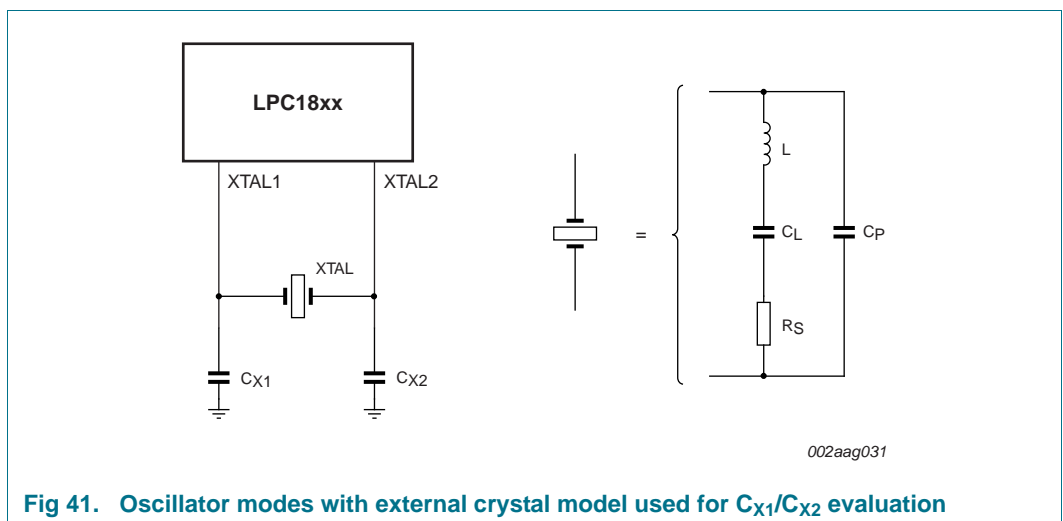

Fig 41. Oscillator modes with external crystal model used for C_{X1}/C_{X2} evaluation
- External components and models used in oscillation mode are shown in Figure 41, and in Table 36 and Table 37. Since the feedback resistance is integrated on chip, only a crystal and the capacitances C_{X1} and C_{X2} need to be connected externally in case of fundamental mode oscillation (L , C_L and R_s represent the fundamental frequency). Capacitance C_P in Figure 41 represents the parallel package capacitance and must not be larger than 7 pF. Parameters F_C , C_L , R_s and C_P are supplied by the crystal manufacturer.